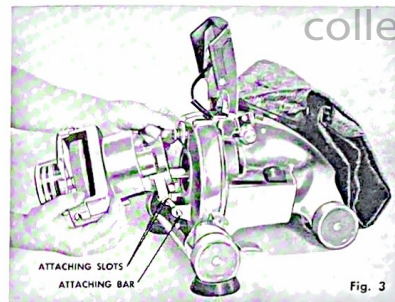

Fig. 3
**STEP 3:** Raise the Floodlight Hood. Hold the Handi-Butler so the Attaching Slot is on the Attaching Bar which is just below the Belt Drive Shaft. (Figure 3) The Belt Drive Shaft should enter the large round opening and pass through the loop formed by the belt.
**STEP 5:** Turn the Belt Lifter lever to the "ON" position and the unit is ready for operation. Rubber cups which are provided may be placed under the front wheels to steady the unit (figure 3).